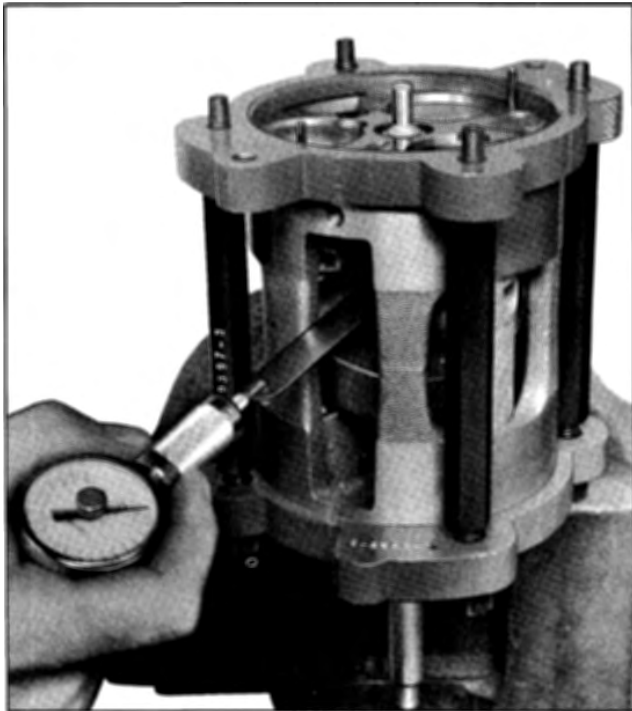

Fig. 5-27 Measuring for Proper Thrust Race
c. An alternate method of selecting a proper race is to use J-9661 gauge set selecting a suitable feeler gauge leaf until the result is a 4 to 8 oz. pull on the scale between the rear thrust bearing and upper (or outer rear) thrust race (Fig. 5-27). If the pull is just less than 4 ozs. add .0005" to the thickness of the feeler stock used to measure the clearance. If the pull on the scale reads just over 8 ozs., then subtract .0005" from the thickness of the feeler stock. Select a race accordingly.